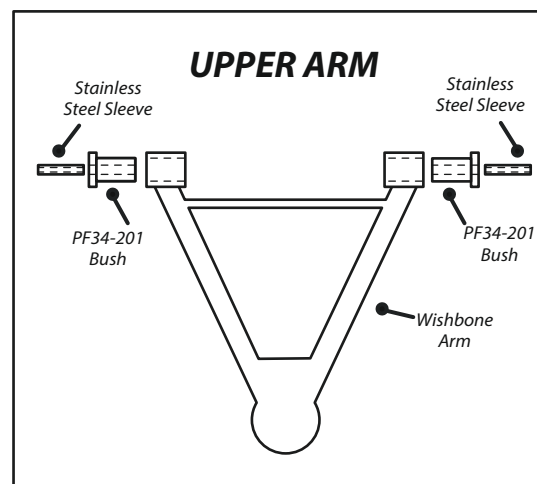

Figure 1 - Positioning of bushes for Upper Arms
3. Fit the PF34-201 Bush into the vacant hole, until the bush sits flush and the lip of the bush is in contact with the arm. Please refer to Figures 1 and 2 for the correct positioning of the bushes